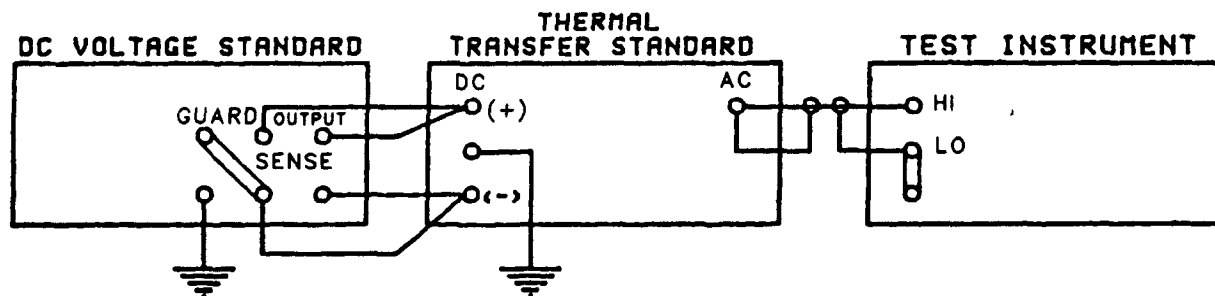

Figure 4.
- 4.6.19 Connect the equipment as shown in Figure 4.
- 4.6.31 Set all DC and AC outputs to OFF and disconnect the equipment of Figure 4.